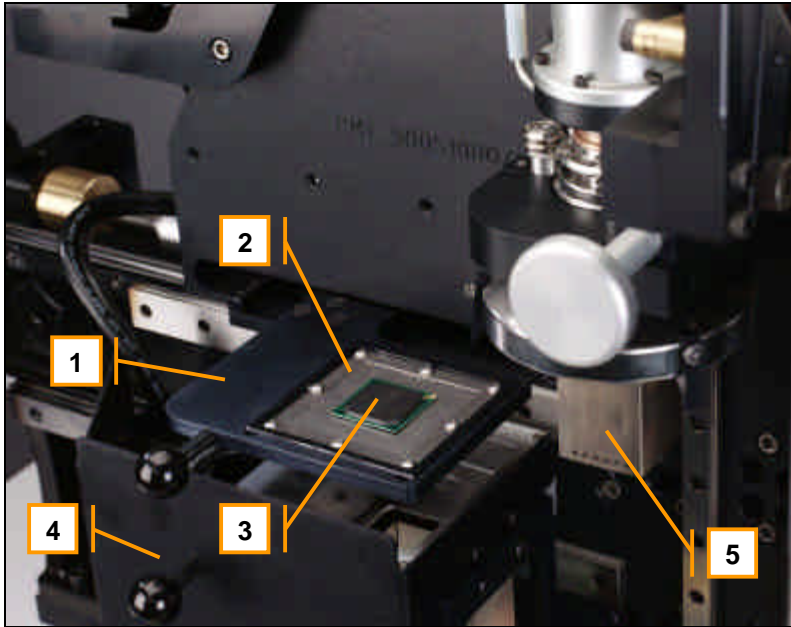

Figure 19: Part Nest
7. Move the nest/CPF under the hot part (Fig. 19)
10. Retract the nest and raise the head. (Fig. 19, 14)
4. Load CPF With BGA Into Nest (Fig. 19)
5. Retract the nest and extend the optics train (Fig. 19)
7. Retract the optics train, move the head to the DOWN position. (Fig. 19, 13-15)
4. Insert the standard nest plate into the nest (Fig. 19)